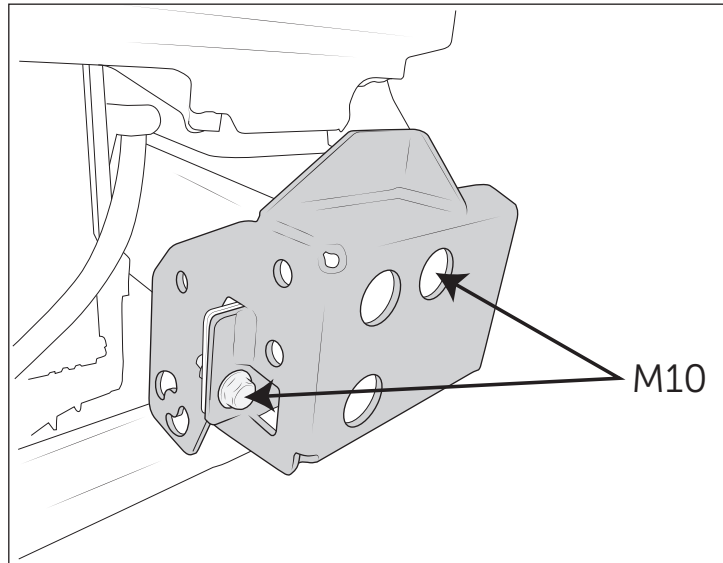

Figure 3: Driver-side Shown
1. Install frame mount brackets using two M10 bolts in the factory locations (fig. 3).